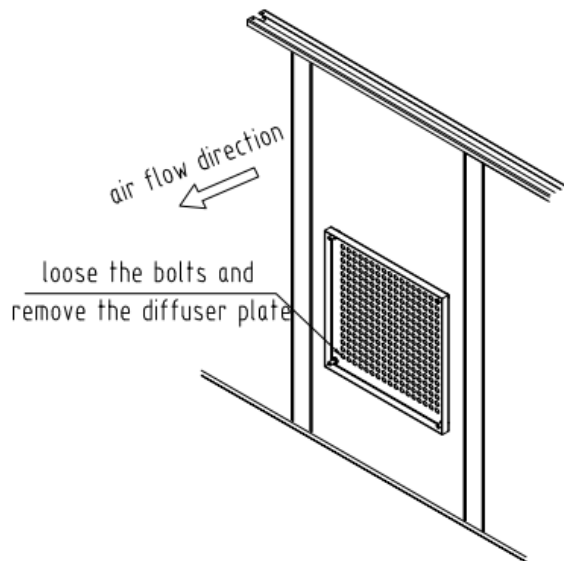
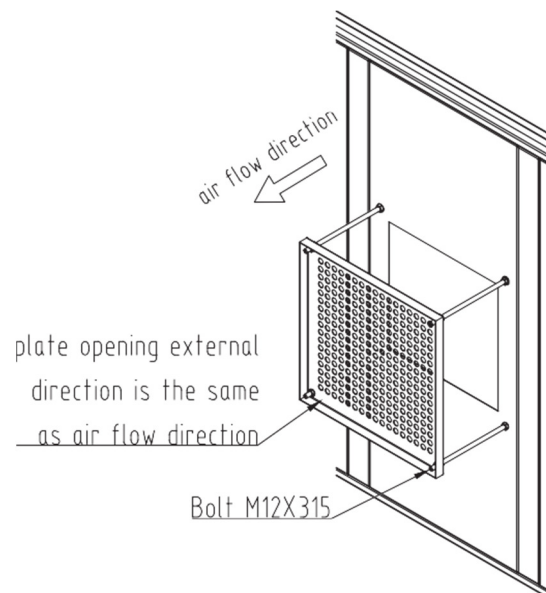

Figure 3.2 Remove Diffuser Plate
Figure 3.3 Re-install Diffuser Plate
- 3) If there is diffuser segment after supply fan, and they belong to different transport section, it should remove diffuser plate fixed on fan outlet firstly (figure 3.2), then re-install diffuser plate according to figure 3.3. Accessory list for re-installing diffuser can be found in table 3-1.